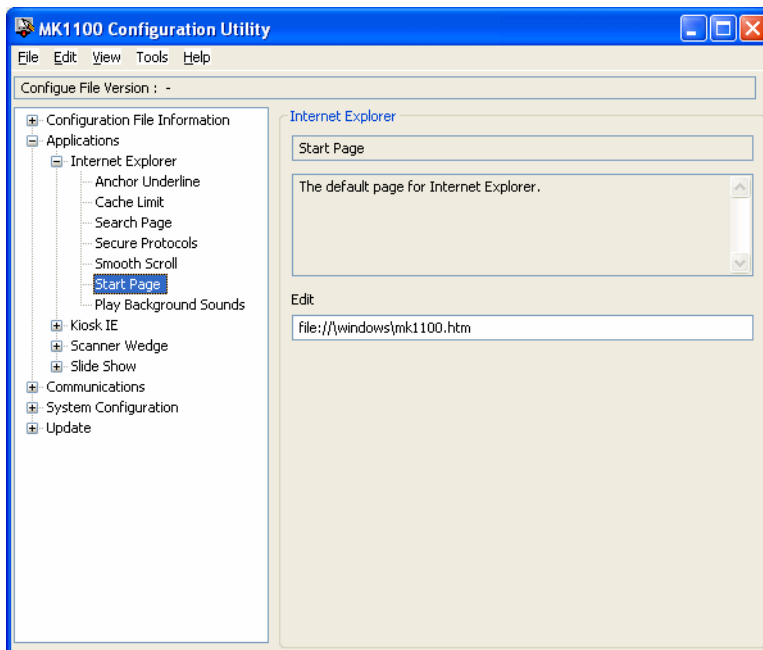

Figure 4-7 Changing Configuration Parameters Example: Internet Explorer Start Page
- See Figure 4-7 for a sample screen, and Data Entry Formats on page 4-27 for **MK1200 Configuration Utility** window data entry field types used when changing configuration options.
3. Make the necessary changes to the default values in the configuration file. See Default Parameters on page 3-6 for these options. Also see Figure 4-7 for a sample screen, and Data Entry Formats on page 4-27 for **MK1200 Configuration Utility** window data entry field types used when changing configuration options.